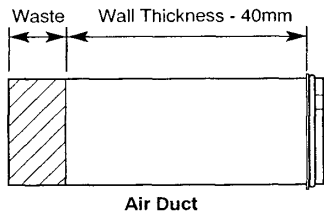

Fig. 24
4. Measure the same amount from the flange end of the Air Duct and cut the waste off the plain end (Fig. 24).